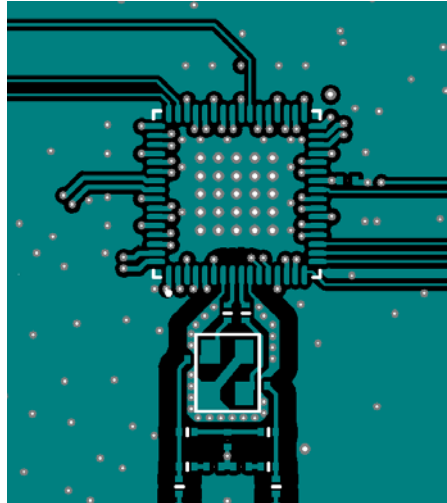
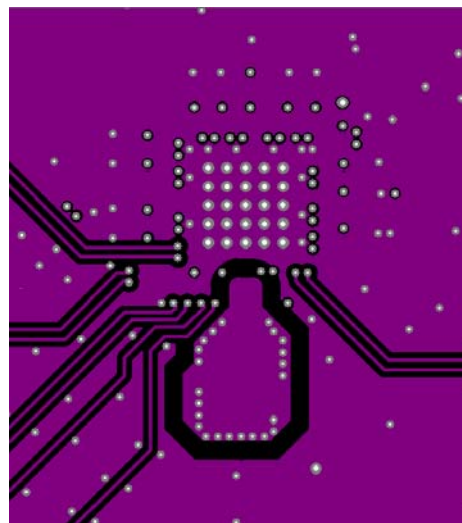

Figure 40. 64-pin Si5345 Crystal Layout Recommendations Top Layer (Layer 1)
Figure 41. Zoom View Crystal Shield Layer, Below the Top Layer (Layer 2)
Figure 40 is the top layer layout of the Si5345 device mounted on the top PCB layer. This particular layout was designed to implement either a crystal or an external oscillator as the XAXB reference. The crystal/ oscillator area is outlined with the white box around it. In this case, the top layer is flooded with ground. Note that this layout has a resistor in series with each pin of the crystal. In typical applications, these resistors should be removed.
3. Connect the crystal's GND pins to the DUT's X1 and X2 pins via a local crystal GND shield placed around and under the crystal. See Figure 40 at the bottom left for an illustration of how to create a crystal GND shield by placing vias connecting the top layer traces to the shield layer underneath. Note that a zoom view of the crystal shield layer on the next layer down is shown in Figure 41.
Figure 41 shows the layer that implements the shield underneath the crystal. The shield extends underneath the entire crystal and the X1 and X2 pins. This layer also has the clock input pins. The clock input pins go to layer 2 using vias to avoid crosstalk. As soon as the clock inputs are on layer 2, they have a ground shield above, below, and on the sides for protection.